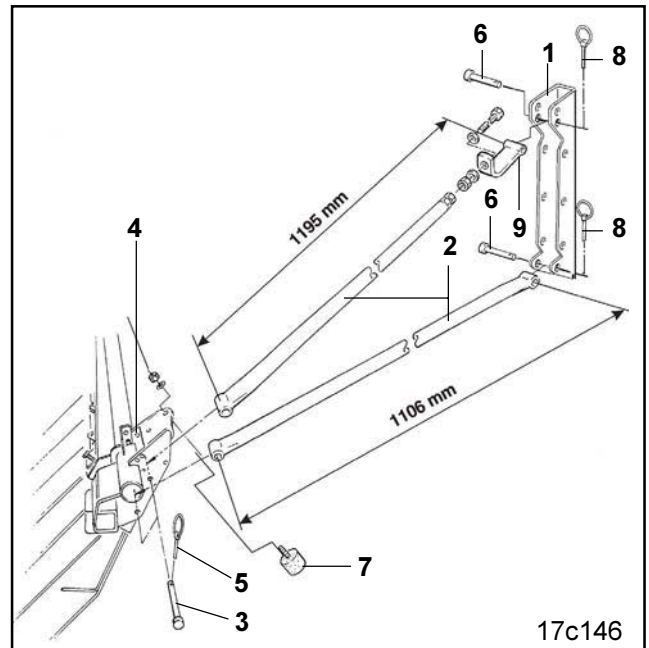
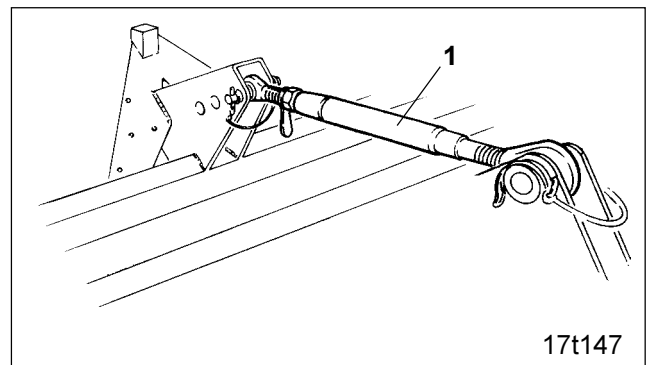

Fig. 25.3
Fig. 25.7
Bolt the pockets (Fig. 25.3/1) to the side parts of the seed rail.
- Bolt on swing-metal buffers (Fig. 25.3/7).
- Fit carrying tubes (Fig. 25.3/2) with pins (Fig. 25.3/3) to the retainers (Fig. 25.3/4) of the extra coverage following harrow and secure with clip pins (Fig. 25.3/5).
- Fix carrying tubes (Fig. 25.3/2) with pins (Fig. 25.3/6) on the pockets (Fig. 25.3/1) and secure using clip pins (Fig. 25.3/8).
This setting is done by lengthening or shortening the top (Fig. 25.7/1), with which the seed rail is fixed.
Should the setting range of the top link (Fig. 25.7/1) be insufficient, readjust the length of the upper carrying tubes on the brackets (Fig. 25.3/9).